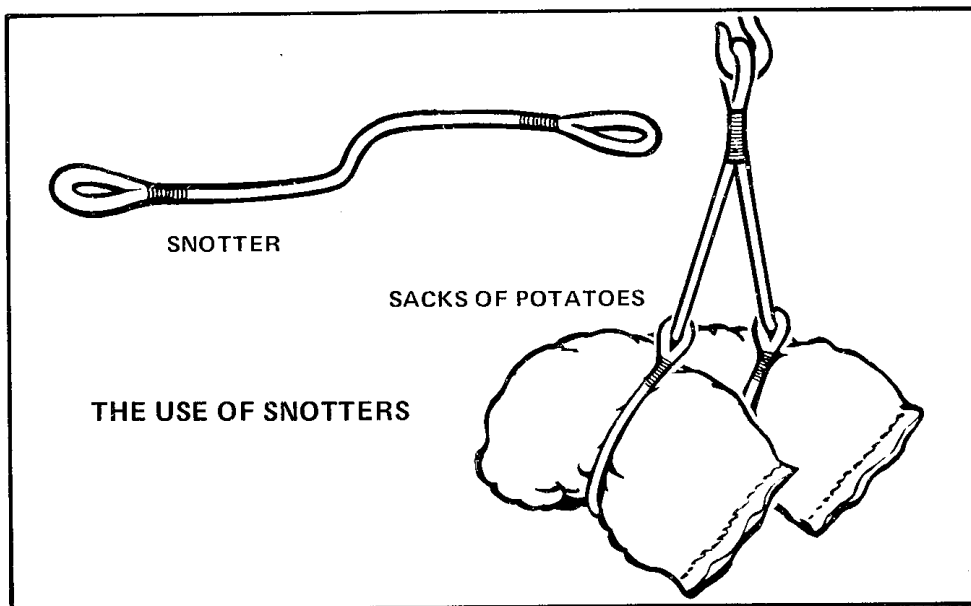

Figure 4-65 The Use of Snotters
15. **Snotters** — For dealing with sacks of vegetables, sugar, etc, a single sling with an eye at either end is most convenient. This is called a **snotter**. See Figure 4-65. Snotters may be made up in pairs or used singly.